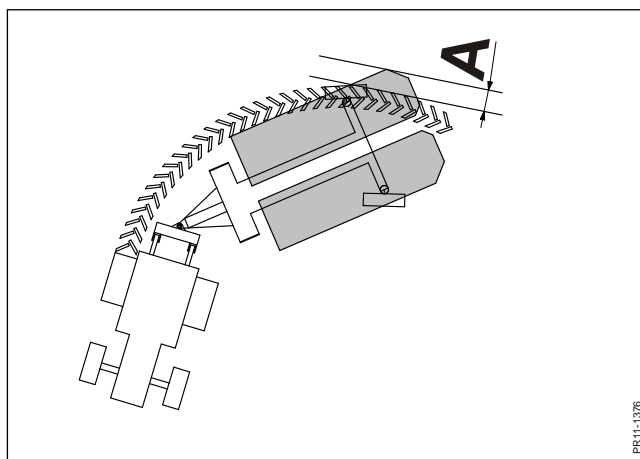

Fig. 3-3
**Fig. 3-3** When turning with the machine the rear edge of the machine will reach distance **A** further out than the tractor. Therefore, always pay attention to the surroundings when turning.